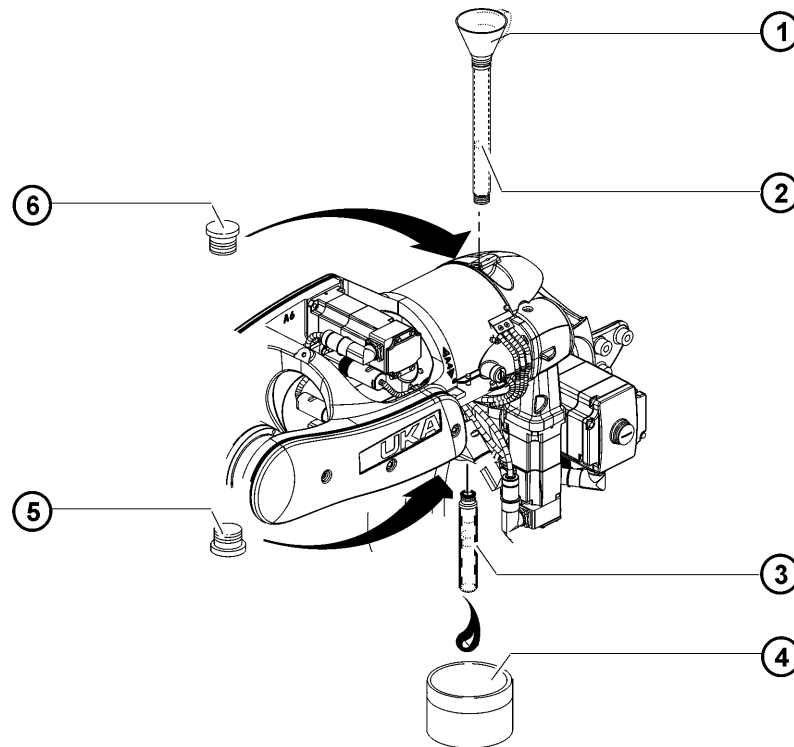

Fig. 9-6: Changing the oil on axis 4, gear unit
1. Remove the lower magnetic screw plug (>>> Fig. 9-6) and screw in the oil drain hose.
1. Screw in the hose (>>> Fig. 9-6).